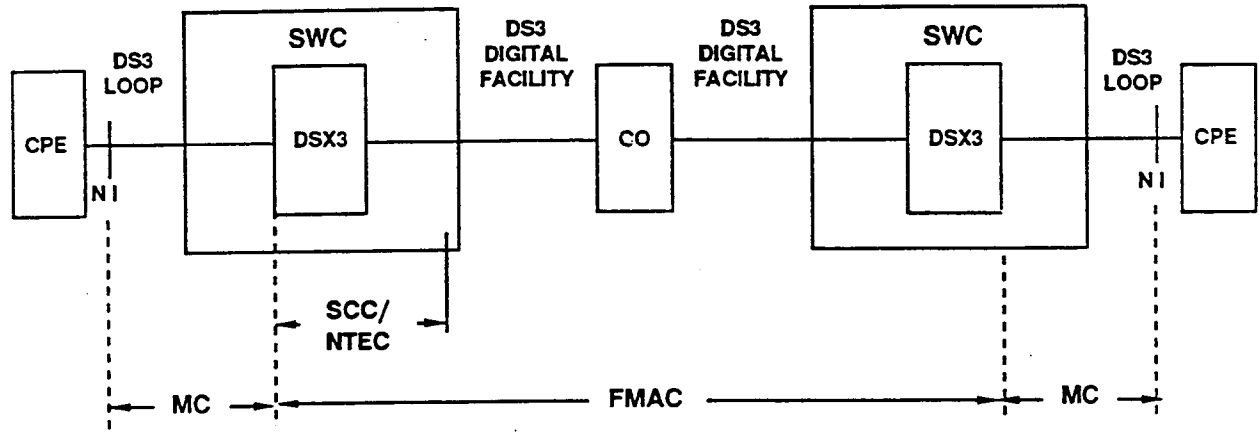

Fig. 1 - Circuit Arrangement and Operations Center Repair Responsibility
**1.10** The FMAC is the center responsible for providing and maintaining interoffice facilities, as shown in Figs. 1 and 2. In areas that lack an FMAC, the NTEC or SSC will assume the responsibilities of an FMAC. The FMAC has the following responsibilities for DS3 digital services:
**1.11** The provision and maintenance of digital equipment in central office locations are the responsibilities of the SCC/NTEC. (In some instances FMAC may be assigned this responsibility, as shown in Figs. 1 and 2.)
**2.03** If local-loop testing is required from the serving central office, the appropriate center or CO work force should be contacted. The majority of this work activity will be assigned to the NTEC or SCC personnel. In metropolitan areas where there is a full-time facility work group (FWG) reporting in a central office, the FMAC will be assigned this work activity as shown in Figs. 1 and 2. The CO work force should first test the DS3 facility via test access.